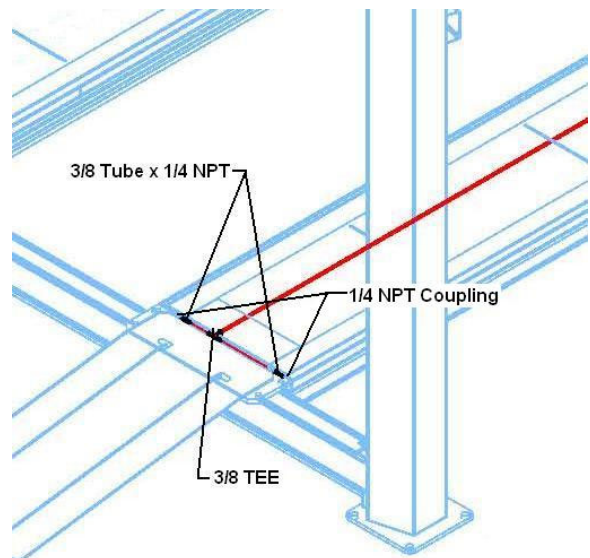

Figure 4
8. Continue to route the 3/8 tube down to the rear of the passenger side runway, install (1) 3/8 tee with (2) 3/8 tube x 1/4 NPT push fittings, **Fig 4**. Connect the 3/8 tube x 1/4 NPT push fittings to the 1/4 NPT couplings.